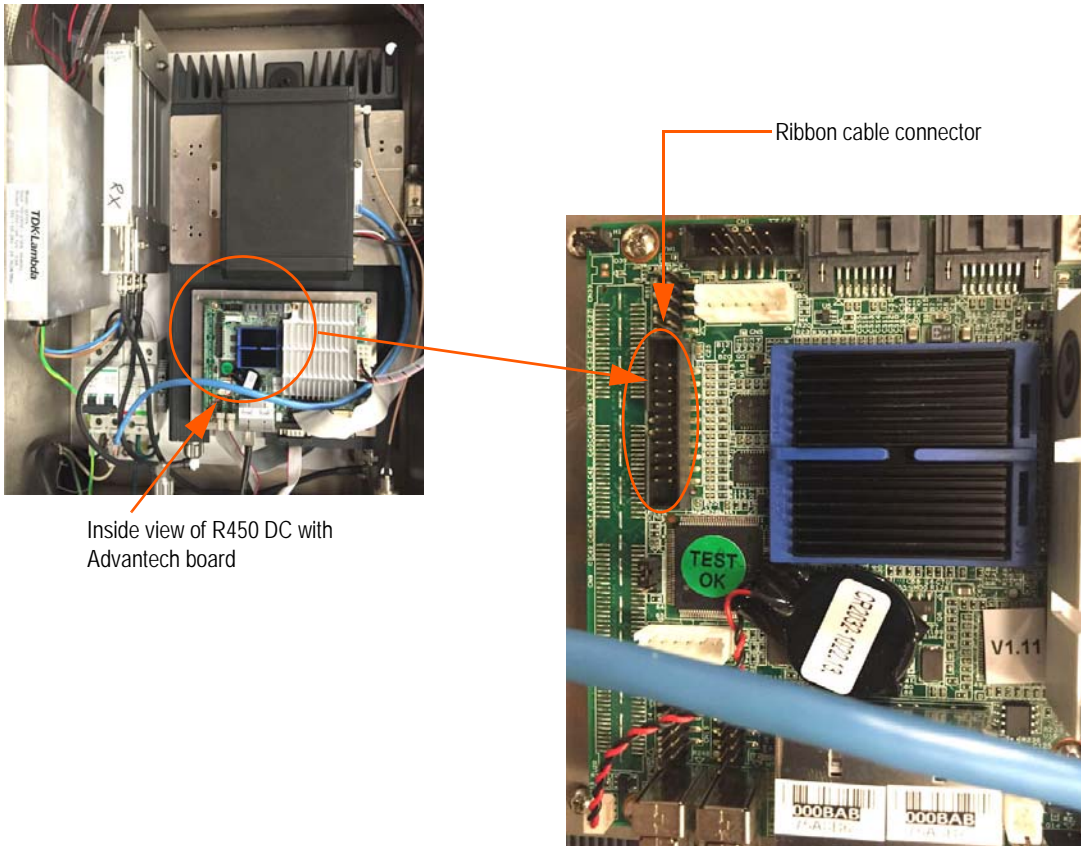

Figure 3.26 Zoomed View of R450 DC with Advantech Board
- Figure 3.26 on page 3-25 shows the interior of the R450 DC with Advantech board.